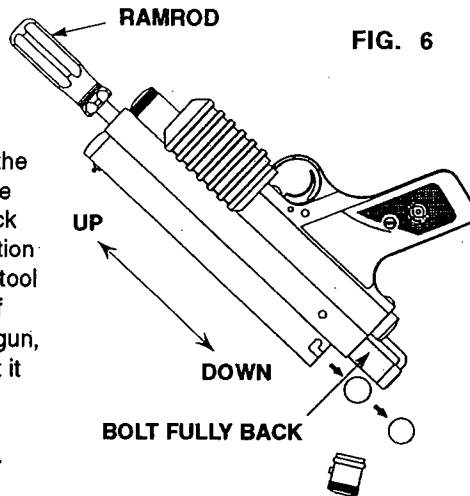

FIG. 6
- To make sure the barrel is clear, hold the gun upside down with the muzzle in the upward position, slide the forearm back until sear engages with a click and action stays open, insert a ramrod or similar tool into the muzzle end of the barrel and if there is a paint ball chambered in the gun, gently push the paint ball back so that it can fall into and out of the magazine. (Fig. 6).